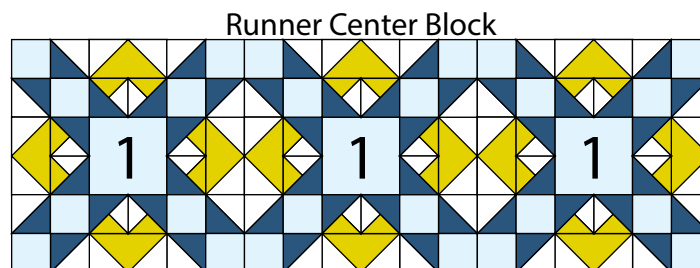

Fig. 16
15. Sew together (3) Block One squares left to right to make the 54 1/2" x 18 1/2" Runner Center Block (Fig. 16).